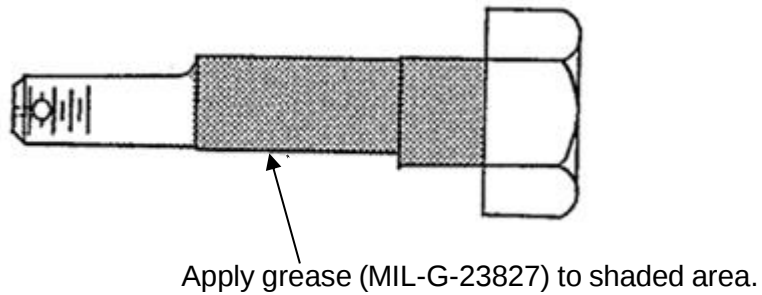

Figure 14: Application of Grease to Shank
- (a) Apply grease (MIL-G-23827) to the shank of Eccentric Bolt. (Figure 14)